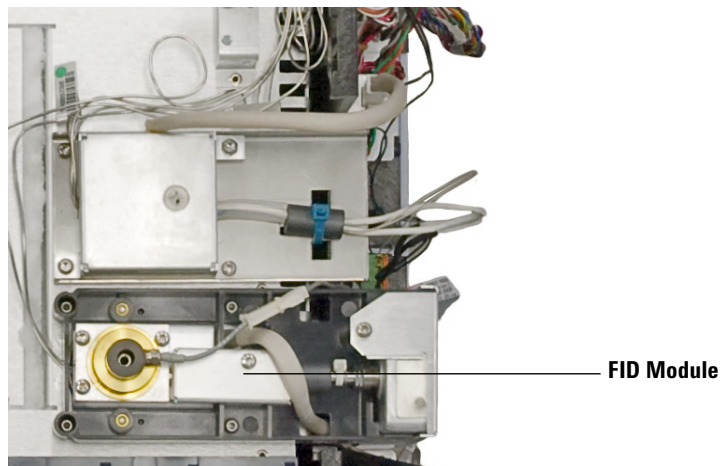

Figure 4 Installing the FID
- 3 Insert the FID into the designated detector position so the column fitting extends through the hole in the insulation and into the oven. (See Figure 4.)